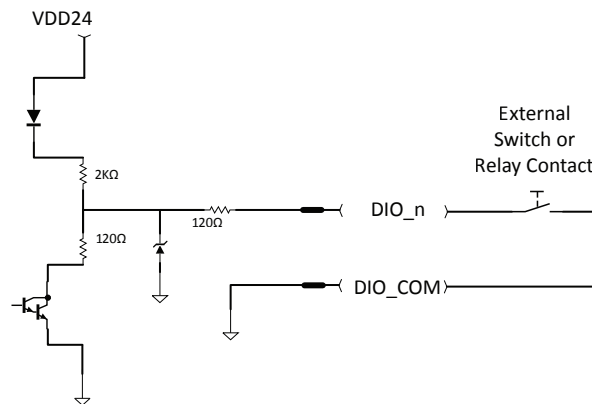

Figure 4
11.9.1 The DIO input mode is a low true input. The customer connects the DIO signal to DIO_COM in order to turn on the input. This can be done with a mechanical switch, a relay contact closure, or a PLC 24VDC output. An external power supply is not required to use DIO inputs. Here is an example of a DIO being used as a low true input. See *Figure 4*.